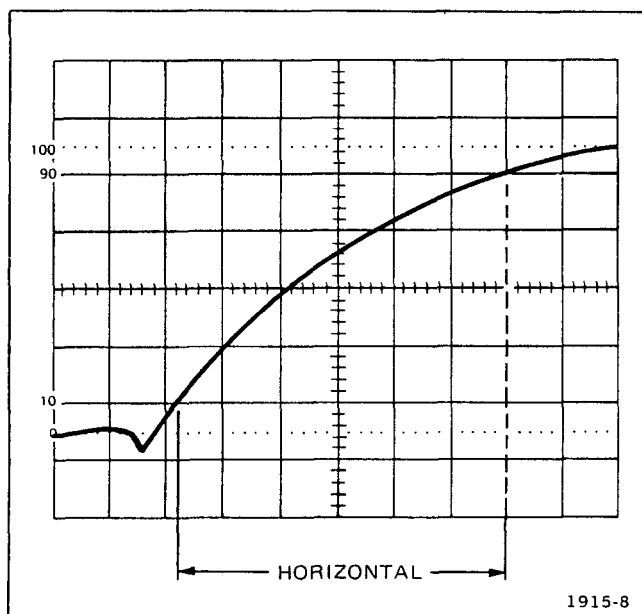

Fig. 2-10. Measuring risetime.
7. Adjust the horizontal POSITION control to move the 10% point of the waveform to the second vertical line of the graticule (see Fig. 2-10).
**EXAMPLE.** Assume that the horizontal distance between the 10% and 90% points is six divisions (see Fig. 2-10) and the TIME/DIV switch is set to 1  $\mu$ s.